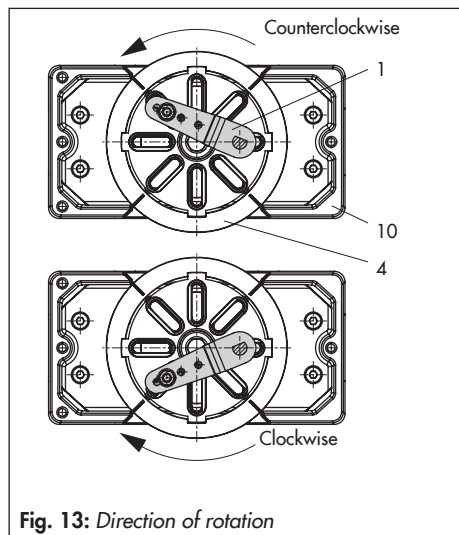

Fig. 13: Direction of rotation
2. For **SAMSON Type 3278 and VETEC S160 Rotary Actuators**, screw the adapter (5) onto the free end of the shaft or place adapter (5.1) onto the shaft of the **VETEC R Actuator**. Place adapter (3) on to **Type 3278, VETEC S160 and VETEC R Actuators**. For **VDI/VDE version**, this step depends on the actuator size.
4. Fasten coupling (4) on the slotted actuator shaft or adapter (3) using screw (4.1) and disk spring (4.2).
5. Unscrew the standard follower pin (2) from the positioner's M lever (1). Attach the follower pin (Ø 5 mm) included in the mounting kit to pin position 90°.
6. Mount connecting plate (6) for required G 1/4 connecting thread or pressure gauge bracket (7) with pressure gauges on the positioner, making sure the two seals (6.1) are seated properly. Double-acting springless rotary actuators require the use of a reversing amplifier on the connection side of the positioner housing (refer to section 4.6).
8. Place positioner on housing (10) and screw it tight. Taking the actuator's direction of rotation into account, adjust lever (1) so that it engages in the correct slot with its follower pin (Fig. 13).